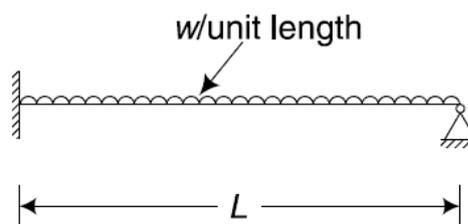

Fig. 2
- (c) Calculate the collapse load for a propped cantilever subjected to a uniformly distributed load w /unit length, as shown in **Fig. 2**. **07**